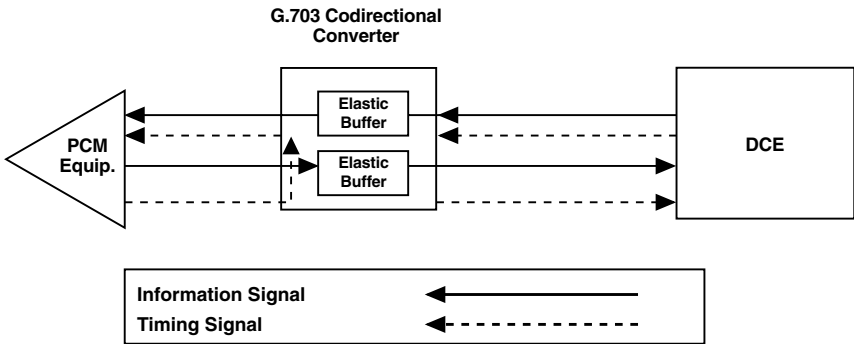
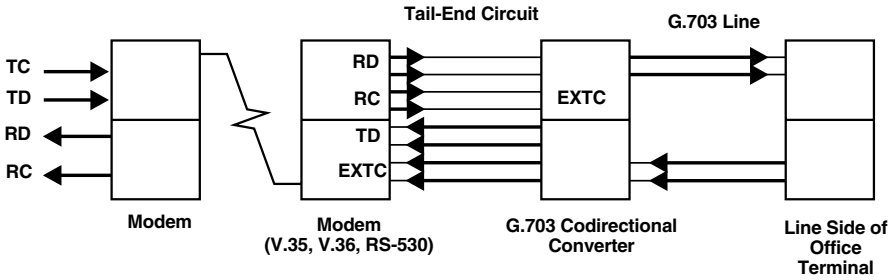

Figure 2-5. LBT-DCE Connection.
Figure 2-8. Tail-Circuit Application.
- Receive Clock is an output from the Converter, while Transmit Clock is an input to the Converter from an external DCE, for connection to a tail circuit (see Figure 2-5 on page 15).
Transmit clock from the external DCE source is provided for applications requiring the use of a modem in order to reach a remote DTE, as shown in Figure 2-8 on the next page (see Figures A-2, A-7, and A-10 in the **Appendix** for pinouts). Use the LBT-DCE-timing mode with the G.703 Codirectional Converter (see Figure 2-5 on page 15).